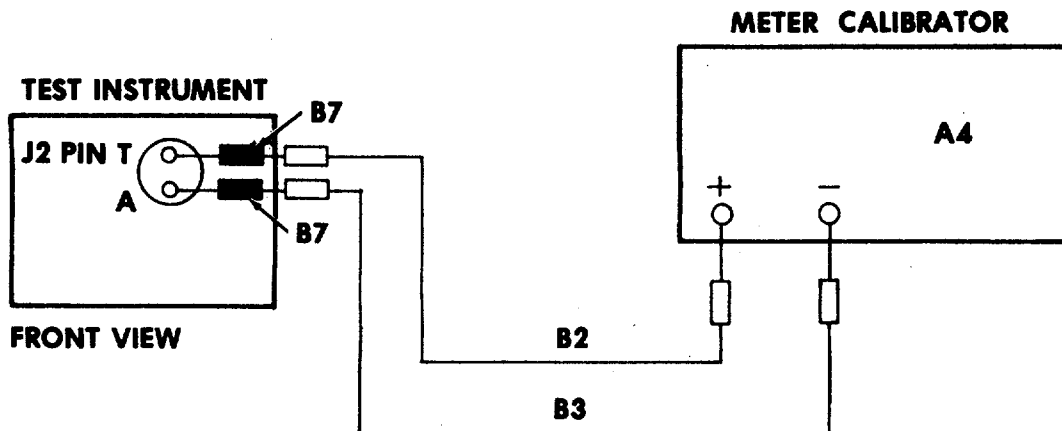

Figure 5. AC Milliamp Equipment Setup
- (1) Connect equipment as shown in Figure 5.
- (2) Set the METER MODE selector to AC MILLIAMPS and METER to the INTERNAL position on the test instrument.
- (3) Set meter calibrator (A4) output controls to amps, 400 Hz position.
- (4) Adjust the current controls on the meter calibrator for an indication of 100 MA on the test instrument. Meter calibrator will indicate between 82 and 118 MA.
- (5) Adjust the current controls on the meter calibrator for each test instrument indication as listed in table 4. Meter calibration will indicate within the limits specified.
- (6) Set all power to OFF.